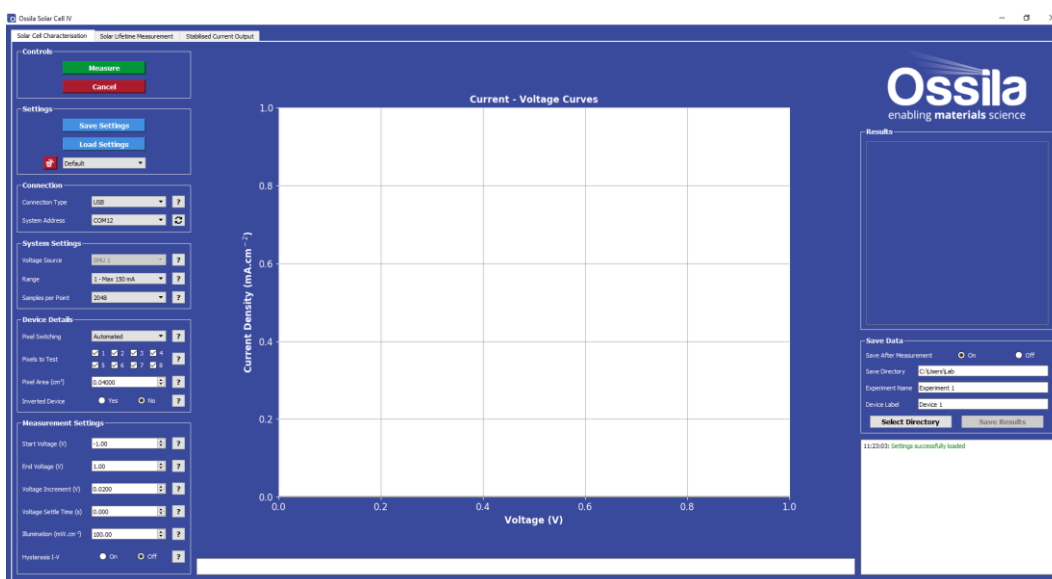

Figure 9.1. Ossila Solar Cell I-V software: The Solar Cell Characterisation tab.
1. Start the Ossila Solar Cell I-V software. The window shown in **Figure 9.1** will open.